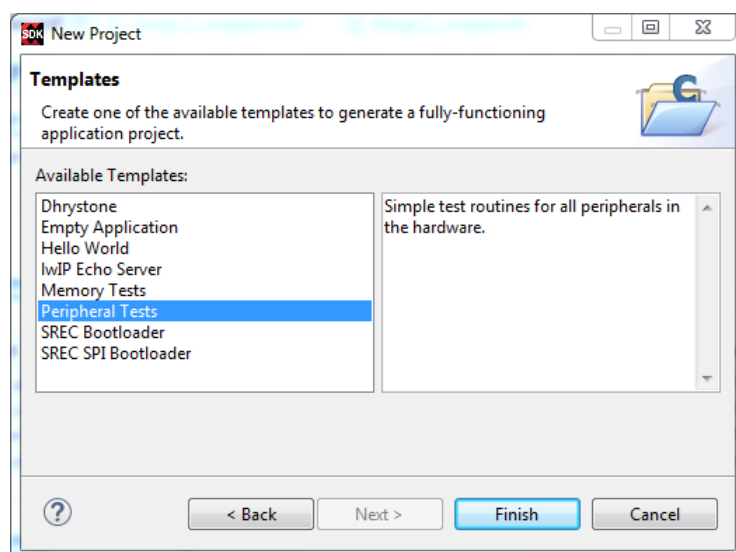

Figure 40: New Project: Template Wizard
6. Select the **Peripheral Tests** application template as in Figure 40, and click **Finish**. Note that there are other templates you could choose, providing support for various kinds of applications. It is very common to start with one such application (e.g. "Hello World") and develop it into the application you actually want to implement.